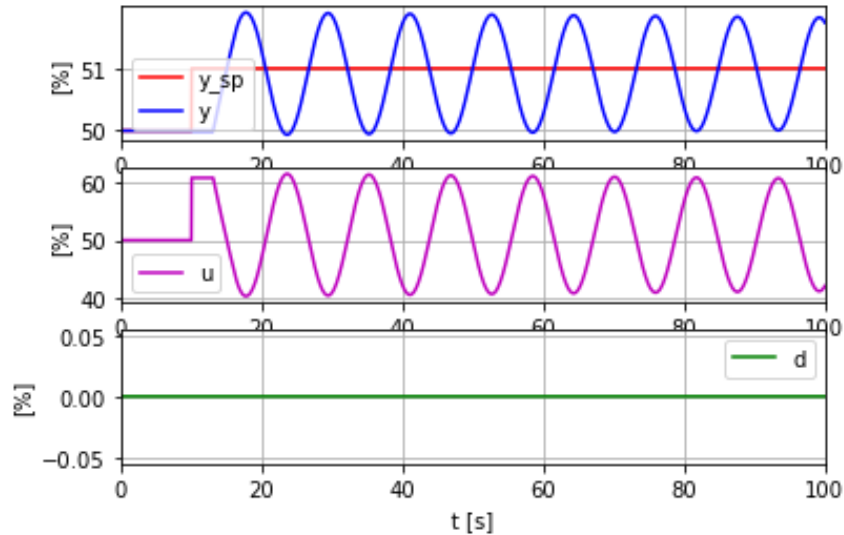

Figure 3
- a. (10 %) $K_{cu} = 10.8$ (and $T_i = 1e9$, which is already given in the program) gives the steady state oscillatory response shown in Figure 3. This response is the Ziegler-Nichols' oscillations. The period is read off from the plot as approx. $P_u = 12$ s.